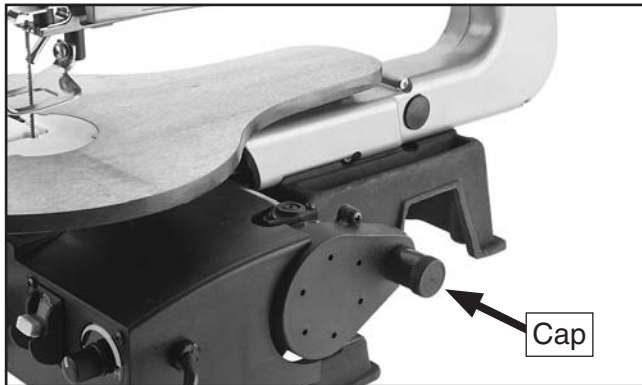

Figure 12. Flex shaft cap location.
1. Remove the cap shown in **Figure 12**.